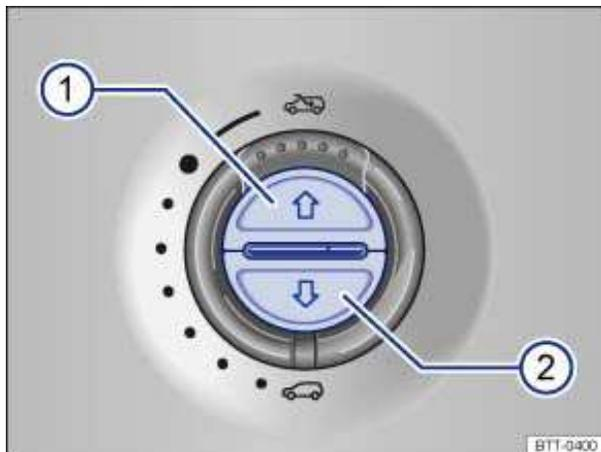

Fig. 35 In the headliner: Buttons for sunshade.
To open fully (one-touch feature):	Briefly press the ⇒ fig. 35 (1) button.